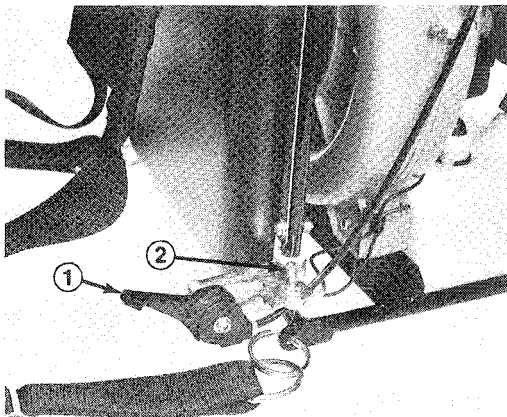

Figure 4
3. Vary engine RPM by operating the throttle lever (Fig. 4). Idle speed, if desired for blowing leaves from a lawn or flower bed, is achieved by moving the throttle lever to the idle position.